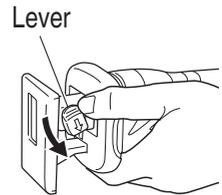

Fig. 12
- (2) After you have pushed the lever in the direction of the arrow mark shown in **Fig. 12** and secured it, turn the blade so it faces downward. The blade should fall out by itself. If the blade doesn't fall out, pull it out by hand.